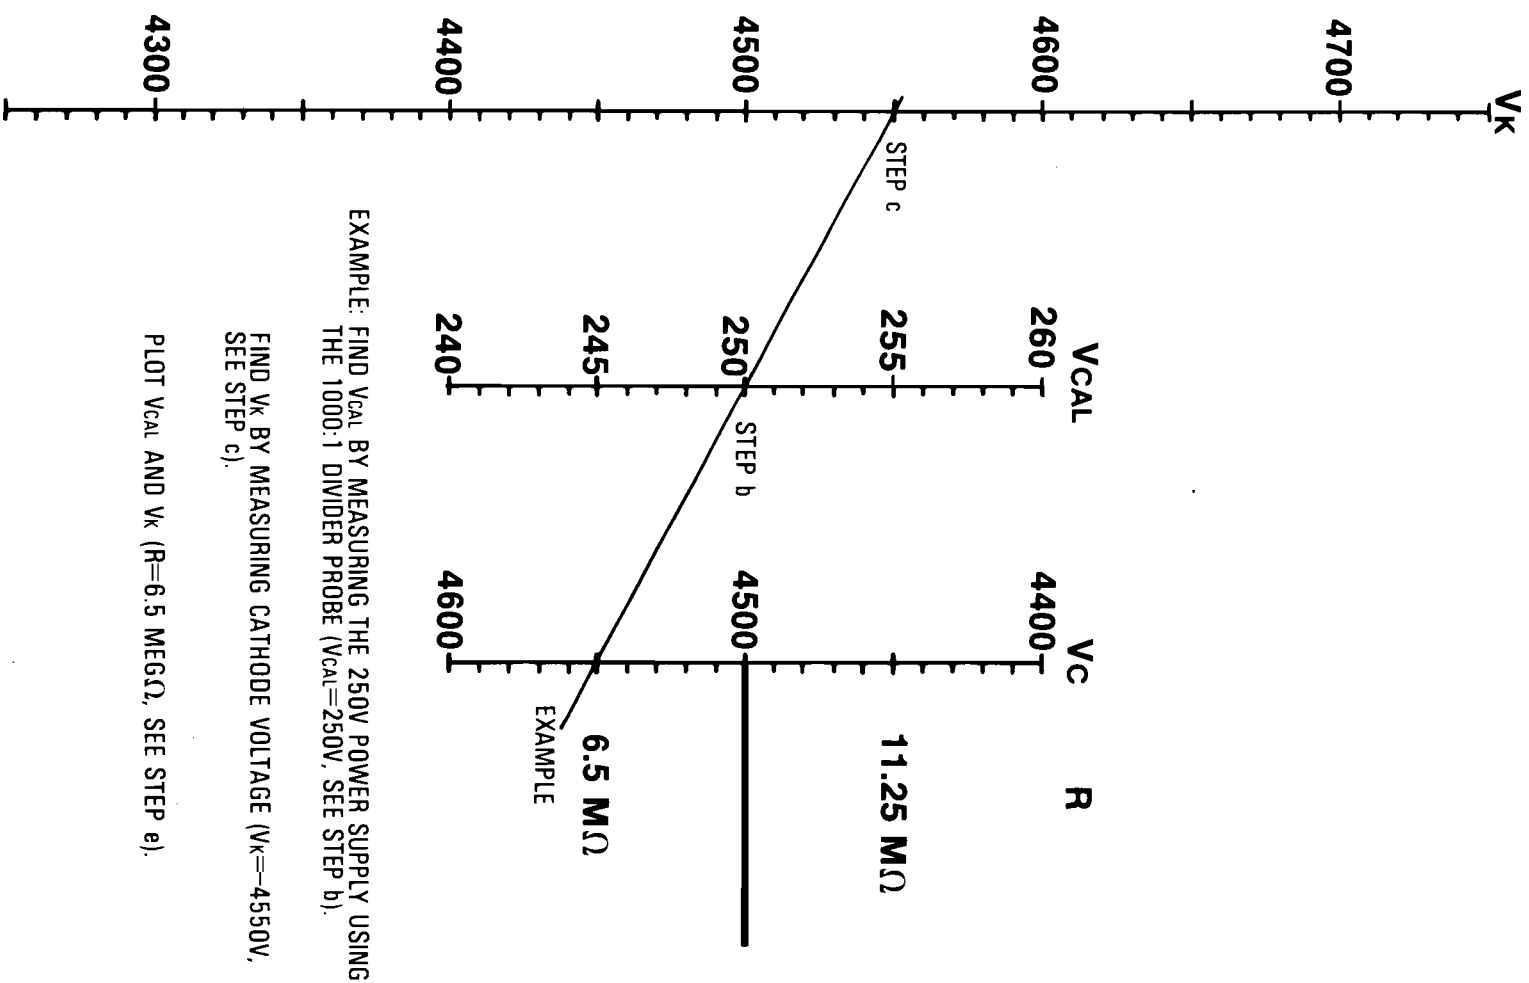

Figure 5-3. High Voltage Shutdown Circuit Nomograph
- d. Plot VCAL and VK on the **Nomograph** in figure 5-3. If VCAL plots off the **Nomograph**, then the 1000:1 Divider Probe does not meet the required  $\pm 3\%$  accuracy. If VK or VC plot off the **Nomograph**, then one or more of the following resistors must be out of tolerance: A9R3; A9R4; A9R24.
- e. Temporarily connect resistor "R" (value obtained from figure 5-3) in parallel with A9R3 (750 K $\Omega$ ). If the addition of resistor "R" triggers the high voltage shutdown circuit, (A9TP1 becomes positive and high voltage shuts down), remove "R" and proceed to the next test.